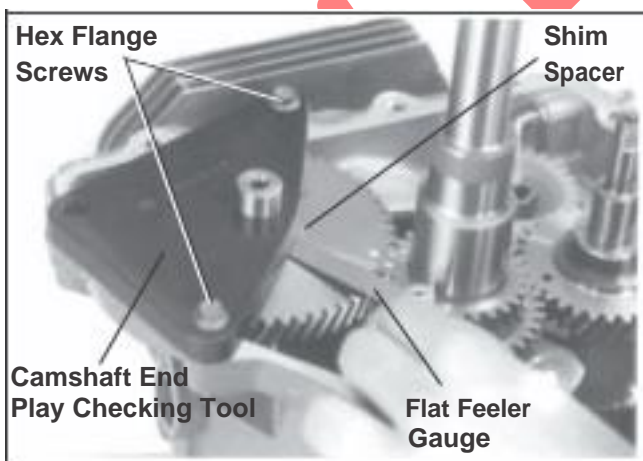

Figure 11-13. Checking Camshaft End Play.
- Install the camshaft end play checking tool (see Section 2) to the crankcase and camshaft. Secure the tool to the crankcase with the hex flange screws provided. See Figure 11-13.